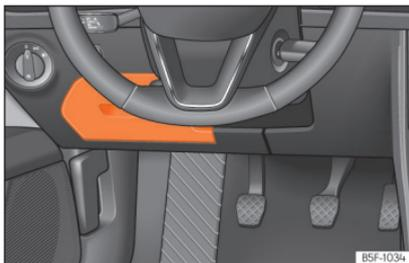

Fig. 104 On the dashboard on the driver side: lid of the fuse box.
- *Open*: fold the cover down »» **Fig. 104.**